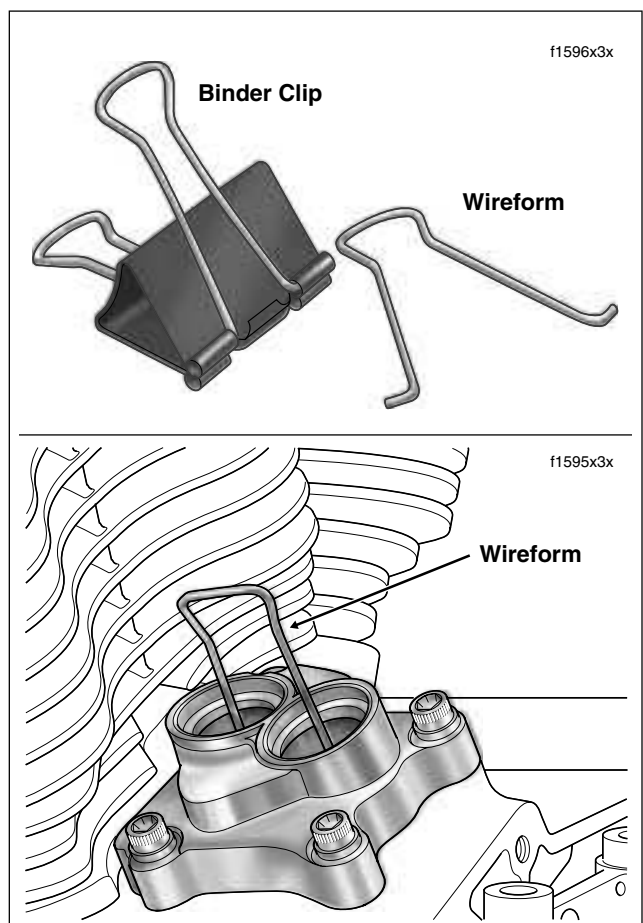

Figure 3-100. Fashion Tool to Hold Hydraulic Lifters
- a. Obtain a large binder clip (available at any office supply store). Squeeze wireforms to remove from binder clip. See upper frame of Figure 3-100.
- b. Compress wireform slightly and insert free ends into outer and inner lifter cover bores so that legs engage walls of both hydraulic lifter sockets. See lower frame of Figure 3-100.